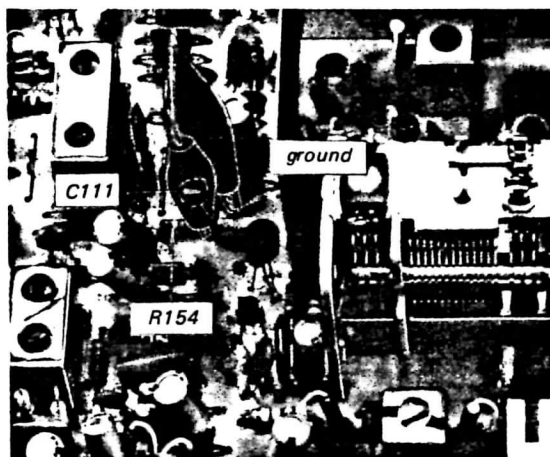

Fig. 3-8. Interruption of AFC circuit
3. Short the connection point of R154 and C111 (AFC circuit) to ground as shown in Fig. 3-8.